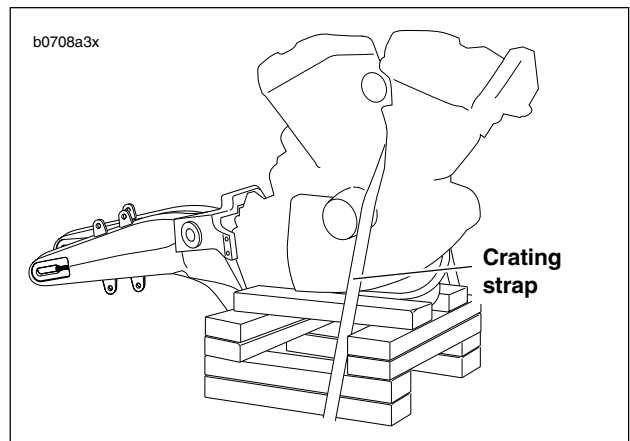

Figure 3-2. Supporting the Engine
15. See Figure 3-2. Place a wooden crate underneath the crankcase.
1. See Figure 3-2. Place engine crankcase on supports so frame may be installed over the top of the engine.